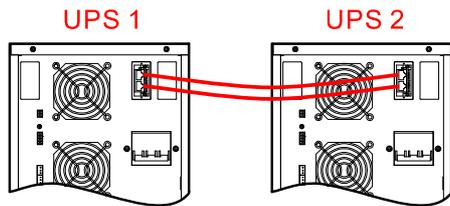
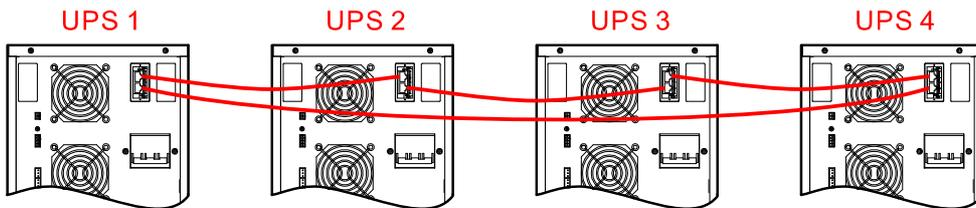

Figure3-34 Double parallel wiring diagram of 10kVA
Figure3-35 Four parallel wiring diagram of 10kVA
Step 3 Connect the parallel port of each UPS in parallel by parallel wires, as shown in Figure3-34 and Figure3-35.